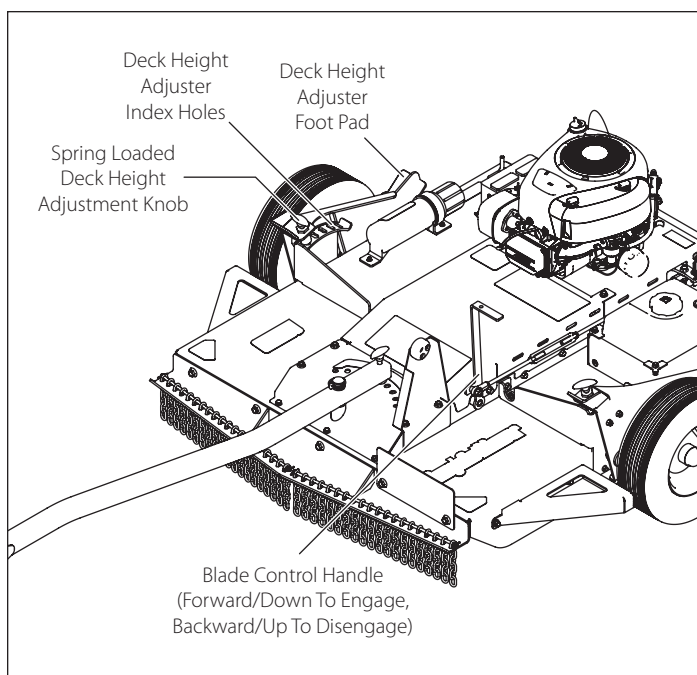

Figure 7
2. Make sure the blade control handle is in the DISENGAGED position. See Figure 7.
- a. Apply foot pressure to the deck height adjuster foot pad. See Figure 7.